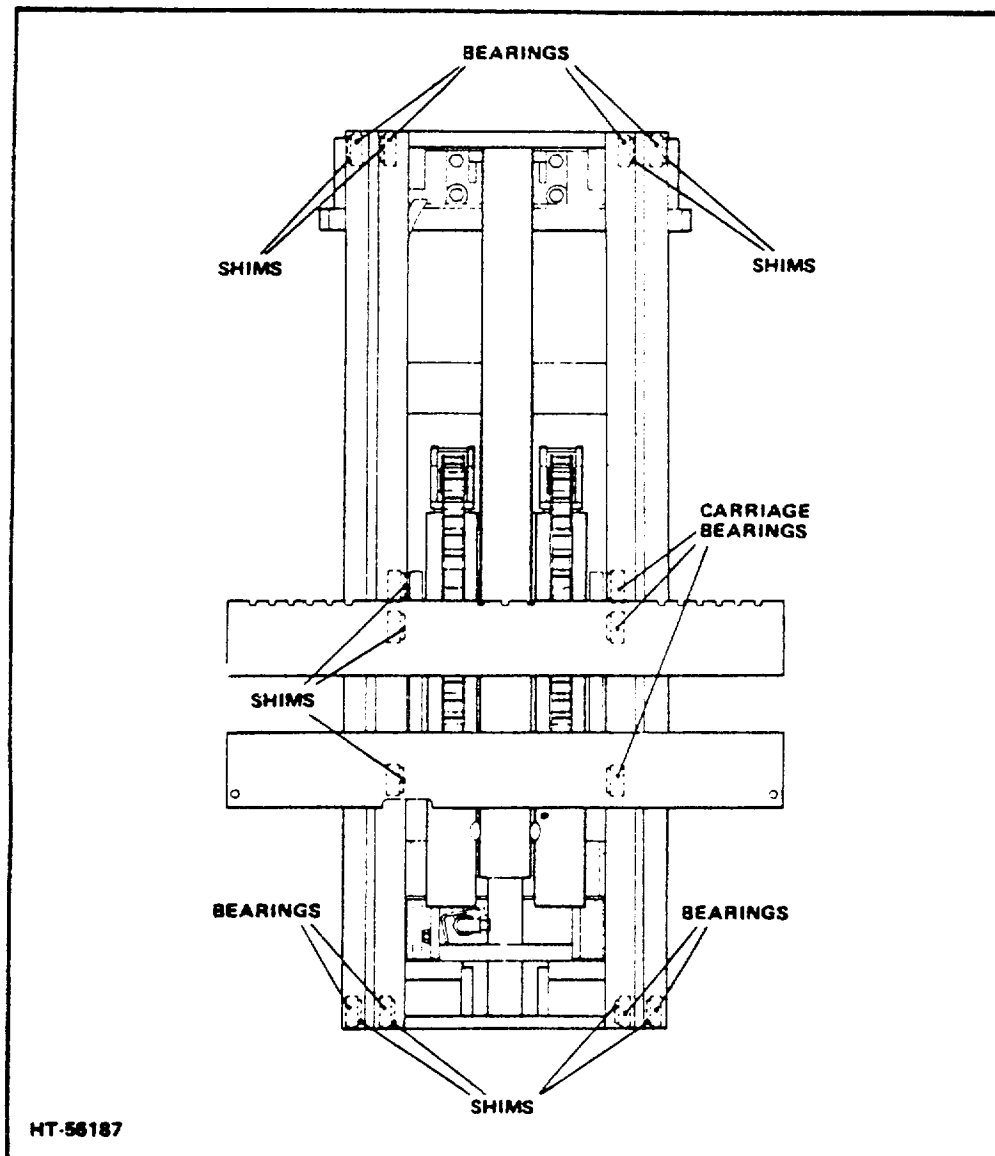

Figure 2-5. Canted Bearing Mast
10. Make certain the carriage and mast are properly centered, shimmed for side thrust, and operates freely (Fig. 2-5).